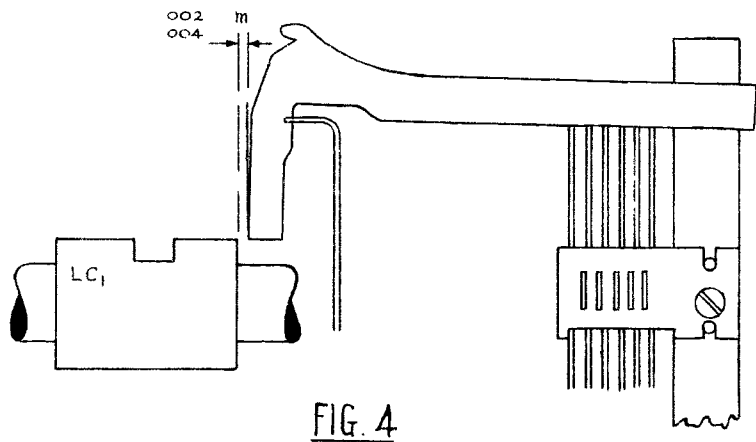

FIG. 4
- 10 BELLCRANK LIFT (FIGS 4 & 6). ALLOW N BELLCRANK TO FALL (-++-) & ADJUST DIMENSION "m" BY ROTATING ECCENTRIC 'D'. RECLAMP TIGHTLY BY SCREW E